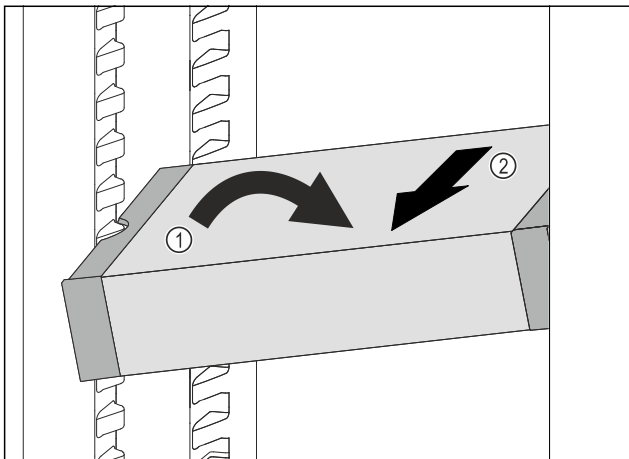

Fig. 41
- ▶ Set VarioSafe in refrigerator compartment at an angle. Fig. 41 (1)
- ▶ Take VarioSafe out to the front. Fig. 41 (2)